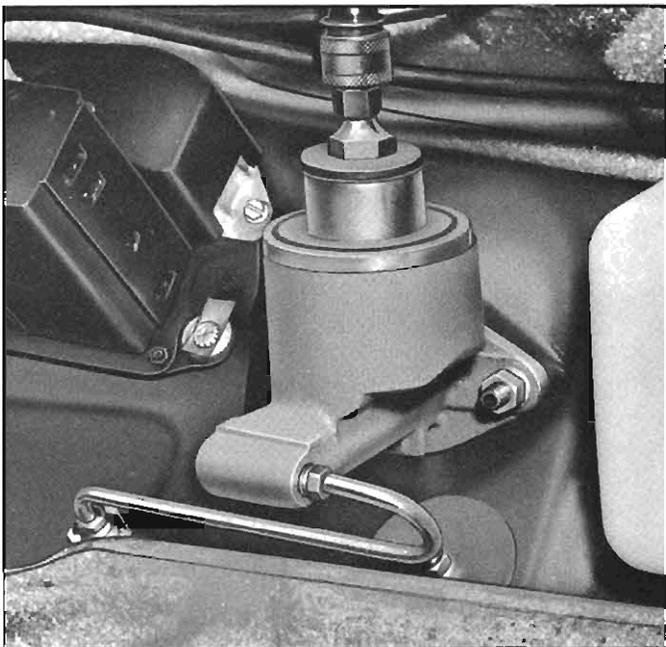

Fig. 5-3—Pressure Bleeding
2. Install Tool J-9477 (fig. 5-3), connect bleeder equipment to Tool J-9477, and open release valve on bleeder equipment.